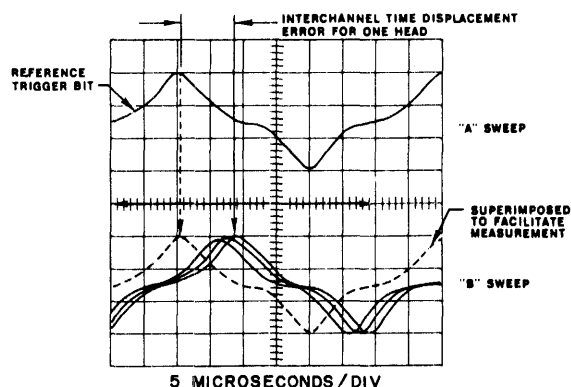

Figure 5-6.
Step 1: Program tape transport to operate in Forward Drive mode. A presentation such as is shown in Figure 5-6 should appear on oscilloscope.